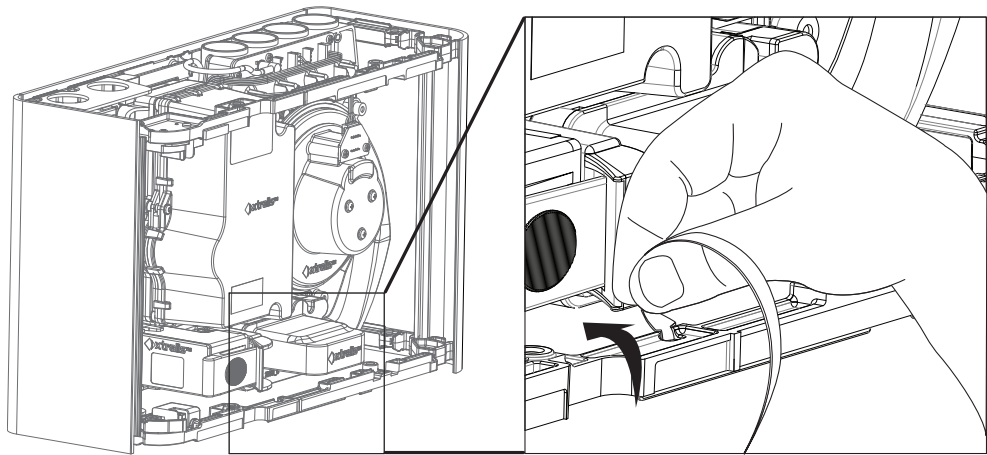
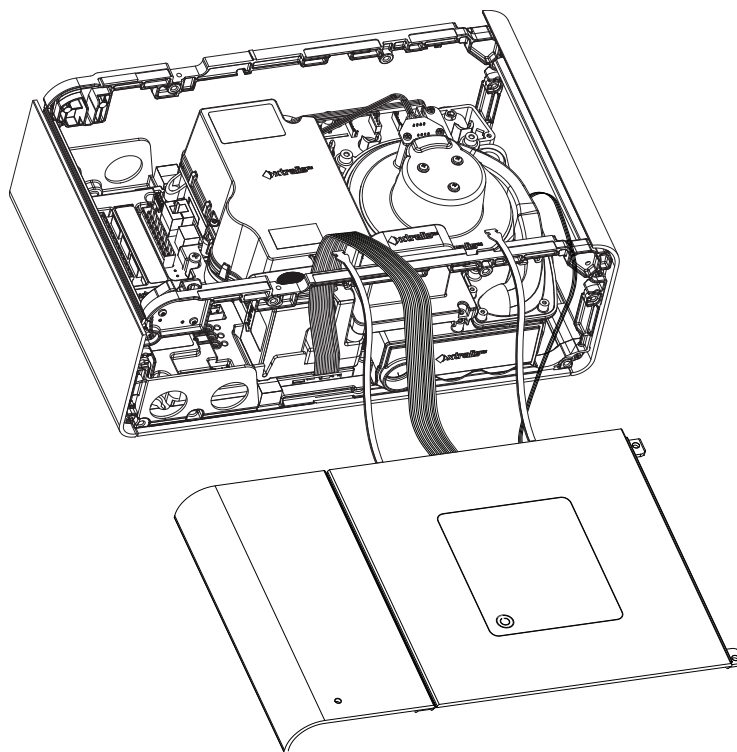

Figure 4-7: Detaching the tethers
Figure 4-8: Detector with tethers detached
4. Detach the tethers, Figure 4-7 and Figure 4-8. (You can leave the cables from the detector to the fascia connected.)